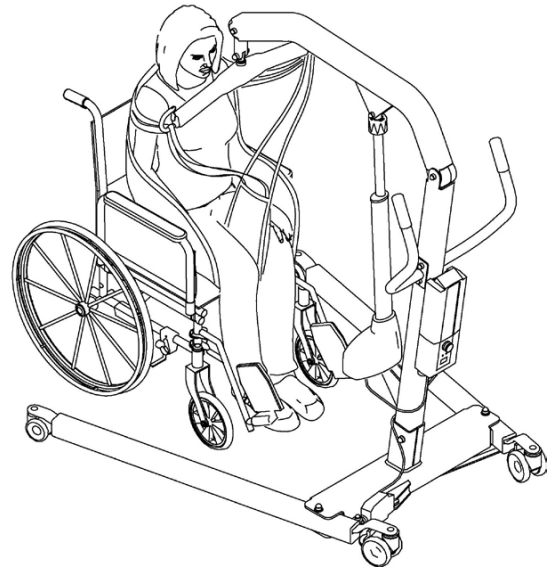

Figure 2
3. Position the Aerial as instructed by the sling IFU. (Fig. 2).